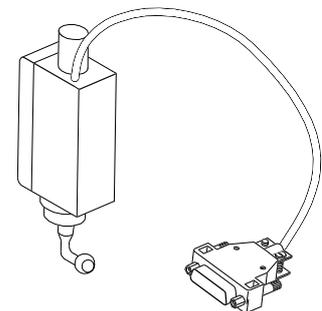

Fig.7.3
**Speed control unit SWG2 (Fig.7.3)**